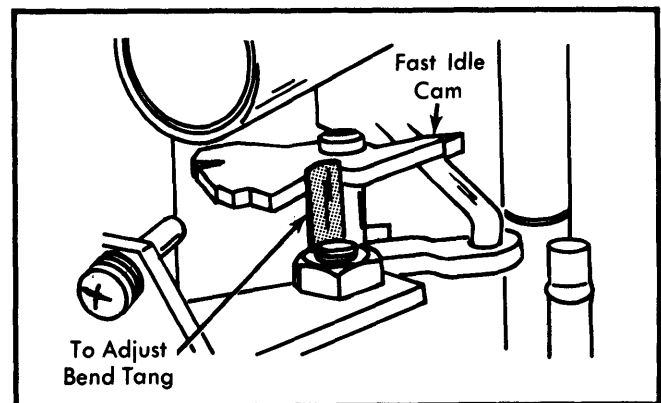

Fig. 7 Adjusting Choke Unloader
1) Open throttle wide open. Measure specified choke unloader clearance between lower edge of choke valve and air horn wall. See Fig. 7.